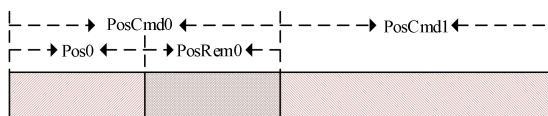

Fig. 12.13 Schematic diagram of the operation of the incremental position command
① The reference point of the incremental position is the target value of the current position command. As shown in Figure 12.13, the first segment position command is set to  $PosCmd0$ , and after running the pulses of  $Pos0$ , the operation ends, and the remaining pulses of  $PosRem0$  are not completed. If the second segment incremental position command  $PosCmd1$  is inserted at this point, the total number of pulses run by the second segment position command, is  $PosCmd1 + PosRem0$ , and the final operation position value is  $PosCmd0 + PosCmd1$ .